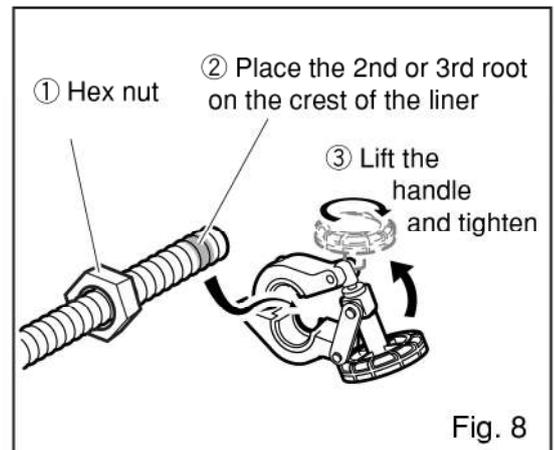

Fig. 8
## (3) Setting the clamp (Figs. 8 & 9)
① Place the 2nd or 3rd root from the end of the tube on the crest of the liner
② Lift the clamp handle, turn clockwise and tighten
③ Check the clamp from the side to see that the end of the tube is not protruding